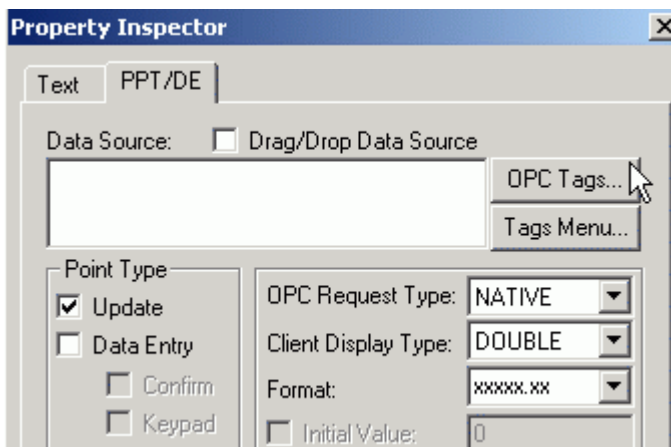

Figure 5.7. OPC Tags Button in Property Inspector
3. This opens the **Property Inspector** dialog box. Every object within GraphWorX has one of these. It is here that customization of the object and dynamic properties can be made. The first tab at the top is for the **Visible** parameters of the object (in this case it is a **Text** object). Any dynamic animations then appear as additional tabs (in this case, the **PPT/DE** tab dynamic is already attached to the **Text** object). In the **PPT/DE** tab, click the **OPC Tags...** button, as shown in **Figure 5.7**.